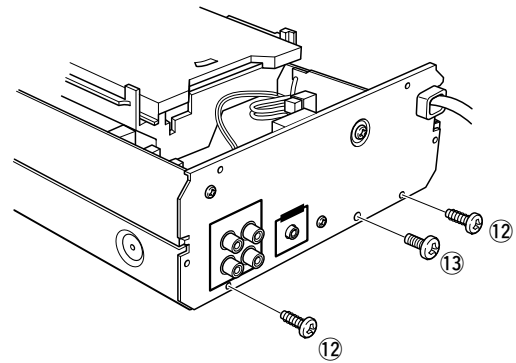

Fig. 7
- Remove 2 screws (12) and 1 screw (13) in Fig. 7.
- ⑫のネジ2本と⑬のネジ1本を外します。(Fig. 7)